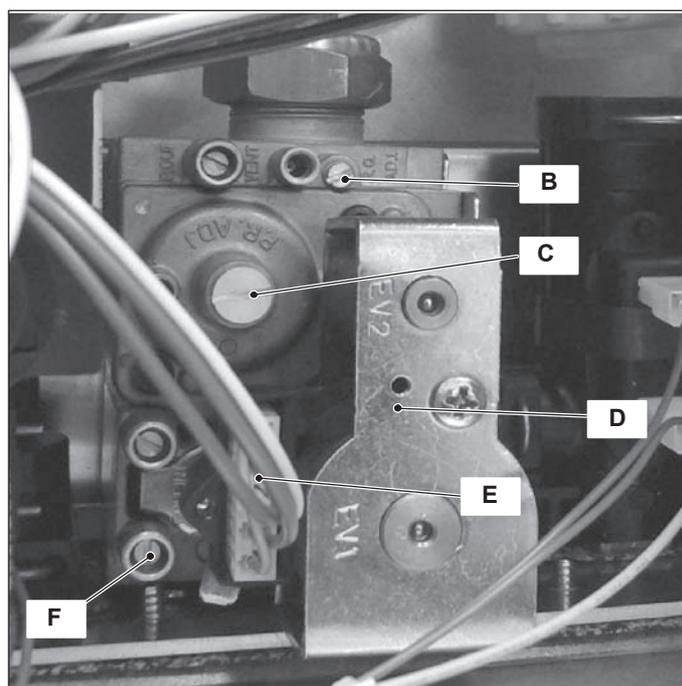

Figure 11.2
### 11.2 Description of the parts - (Figure 11.2)
- 3 Loosen the internal screw on the Inlet Pressure Test Point F (Figure 11.2) of the Gas valve and connect a pressure gauge using a suitable hose.
- 10 Disconnect the pressure gauge and close the Inlet Pressure Test Point F (Figure 11.2).
To adjust the CO2 % value remove the brass plug by unscrewing it and rotate the Allen key screw ø 4mm (C - Figure 11.2) (by rotating it clockwise the CO2 % increases).
To adjust the CO2 % value rotate screw (B - Figure 11.2) (by rotating it clockwise the CO2 % decreases).
32 After adjustment fit the protective brass plug (C - Figure 11.2).
- 2 Disconnect the electrical connector E (Figure 11.2).